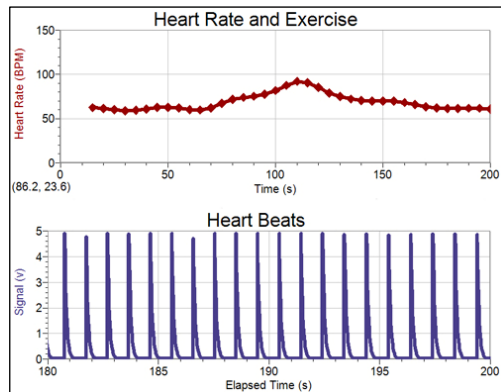

Figure 2
- Monitor how fast a person's heart rate returns to normal after exercise (recovery rate), as shown in Figure 2.